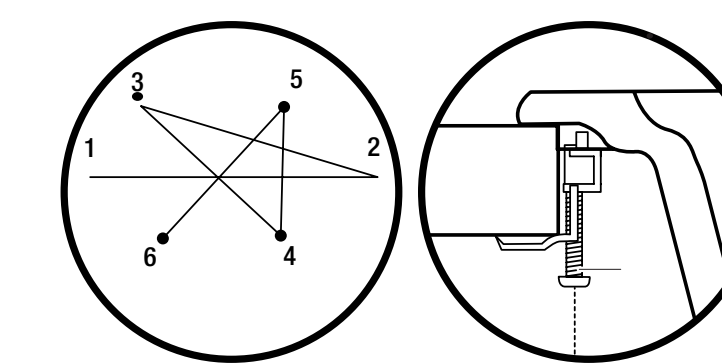

Fig. 3
12. Tighten clips in sequence (see figure 3). DO NOT OVERTIGHTEN.
12. Serrez les attaches de fixation en séquence. (Voir la figure 3.) NE PAS TROP SERRER.